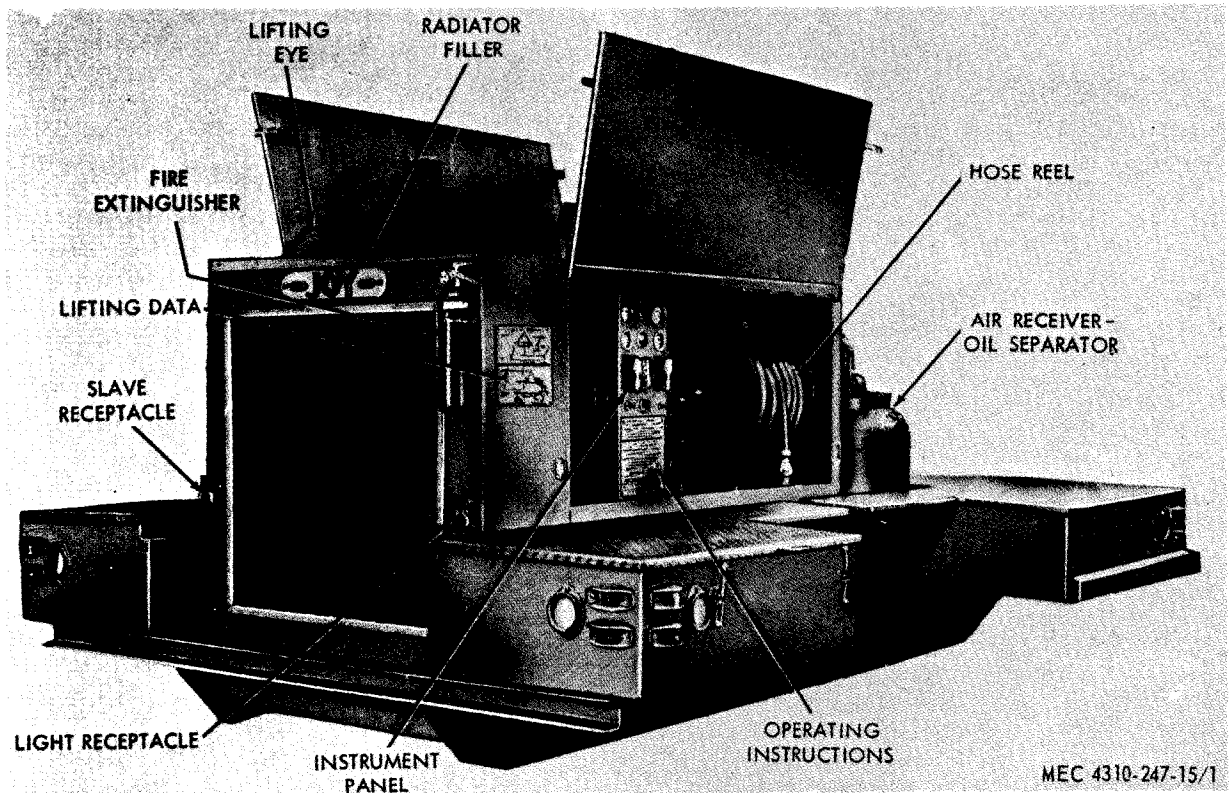

Figure 1. Left-front view.
a. General. The portable air compressor, model RPV260DC20MS1 (figs. 1 and 2), is a skid-mounted, self-contained, canopy-covered unit. The unit, driven by a diesel engine, is complete with controls, switches and gages necessary for operation. It has a standard operating pressure of 100 psi (pounds per square inch) which delivers a rated output of 250 cfm (cubic feet per minute) of air, at rated maximum speed of 1,800 rpm (revolutions per minute).